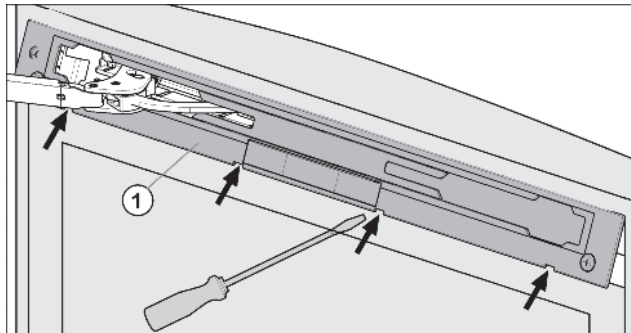

Fig. 11
- ▶ Release panel Fig. 11 (1) using slotted screwdriver and remove.